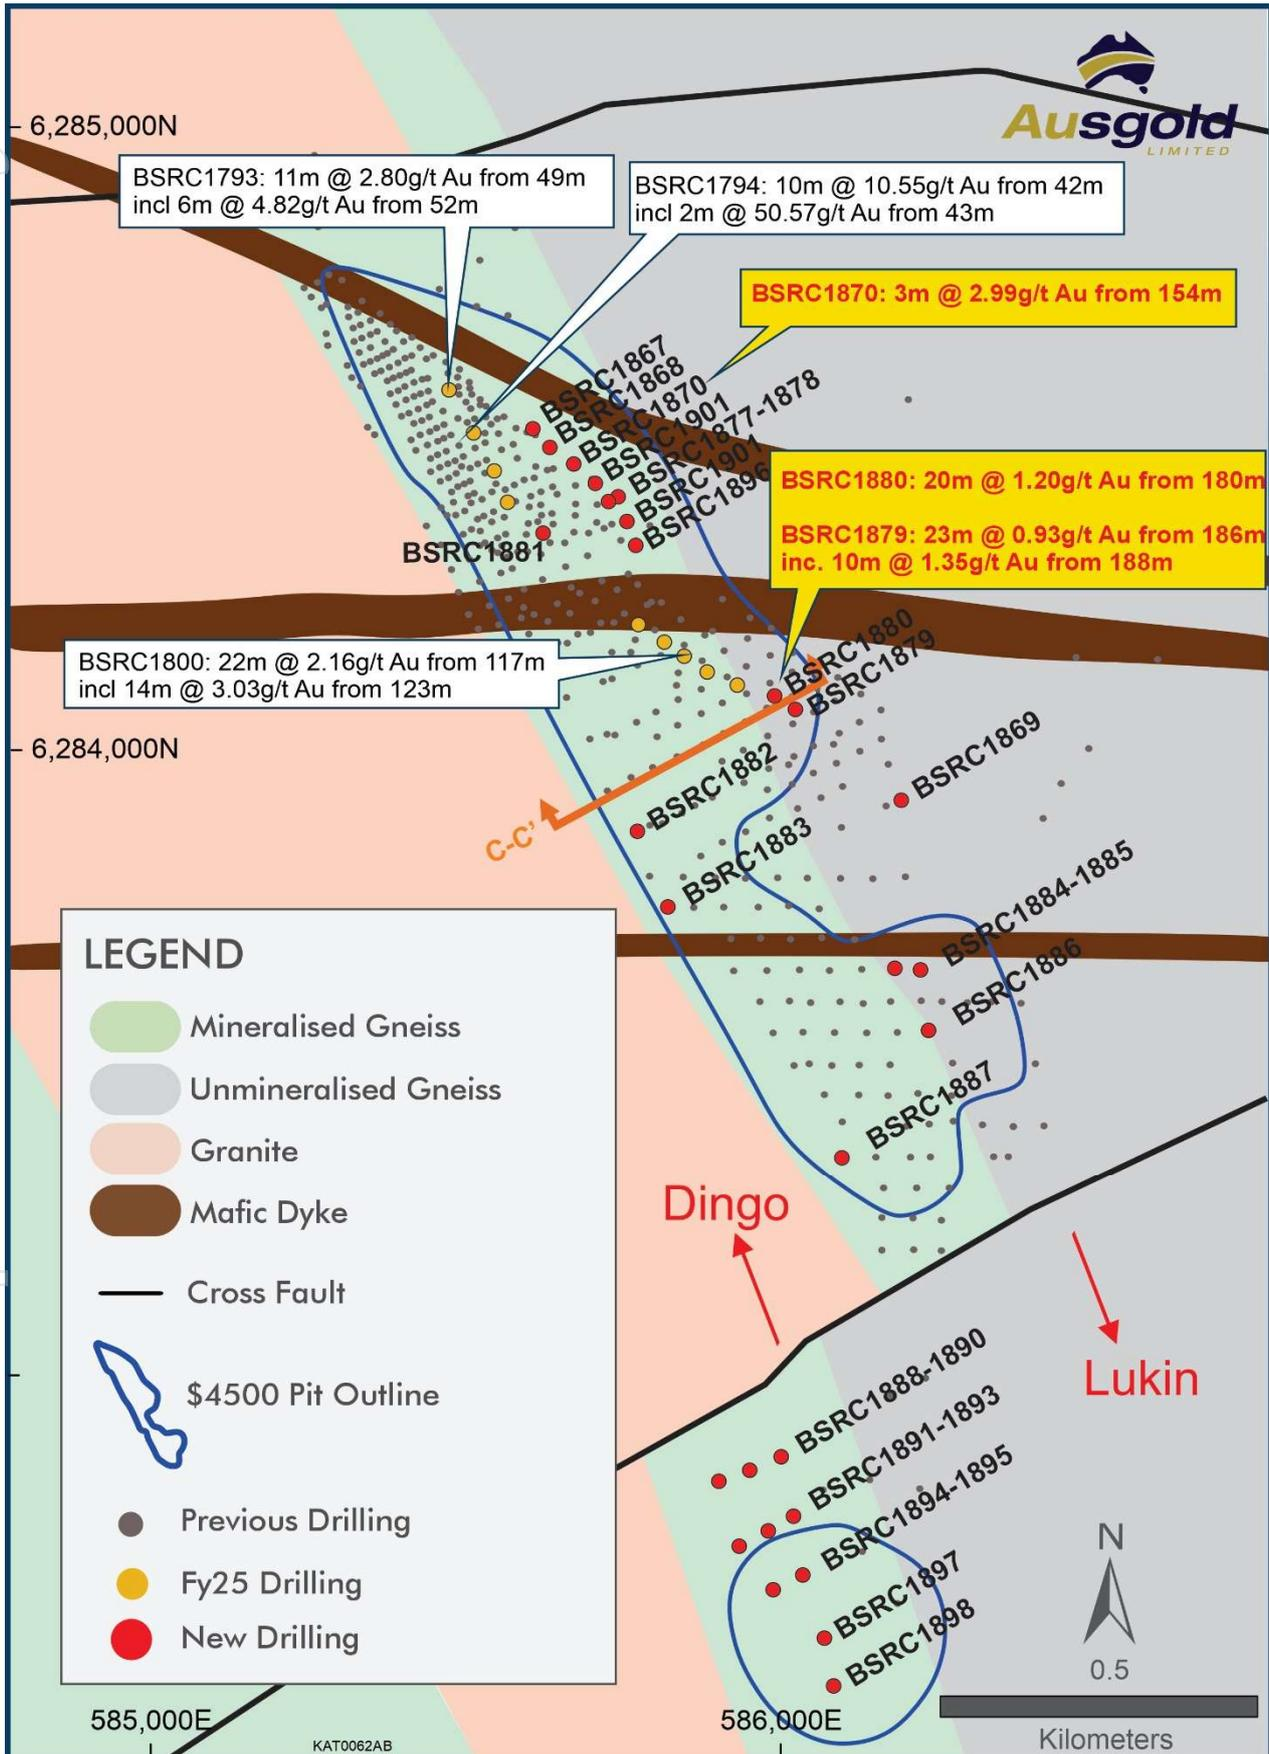

Figure 6 – Geological map of the Southern Zone displaying new drilling relative to A\$4,500 pit outlines
Drilling results reported in this announcement are from 28 holes for 3,271m drilled in the Southern Zone, at the Dingo and Lukin deposits (Figure 6). The Southern Zone contains 9% of the total Mineral Resource at the KGP (Figure 1) and represents an excellent opportunity for resource growth via the footwall continuation of the broader mineralising system, which is referred to as the Jackson lode in the Central Zone (Figures 6-7).
These holes complement results from last year (Figure 6) which are yet to be integrated into an updated Mineral Resource Estimate. Results from these holes include⁶:
- **10m @ 10.55g/t Au from 42m including 2m @ 50.57g/t Au from 43m in BSRC1794 (Figure 6)**
- **22m @ 2.16g/t Au from 117m including 14m @ 3.03g/t Au from 123m in BSRC1800 (Figure 6)**